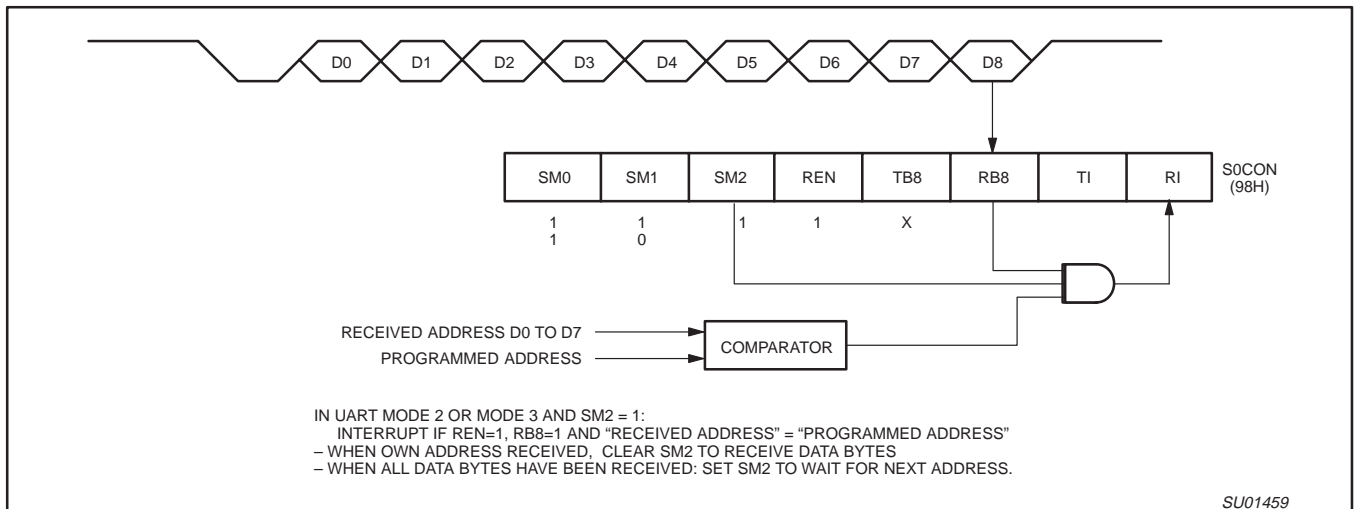

Figure 9. UART Multiprocessor Communication, Automatic Address Recognition
Automatic Address Recognition is a feature which allows the UART to recognize certain addresses in the serial bit stream by using hardware to make the comparisons. This feature saves a great deal of software overhead by eliminating the need for the software to examine every serial address which passes by the serial port. This feature is enabled by setting the SM2 bit in S0CON. In the 9 bit UART modes, mode 2 and mode 3, the Receive Interrupt flag (RI) will be automatically set when the received byte contains either the "Given" address or the "Broadcast" address. The 9 bit mode requires that the 9th information bit is a 1 to indicate that the received information is an address and not data. Automatic address recognition is shown in Figure 9.